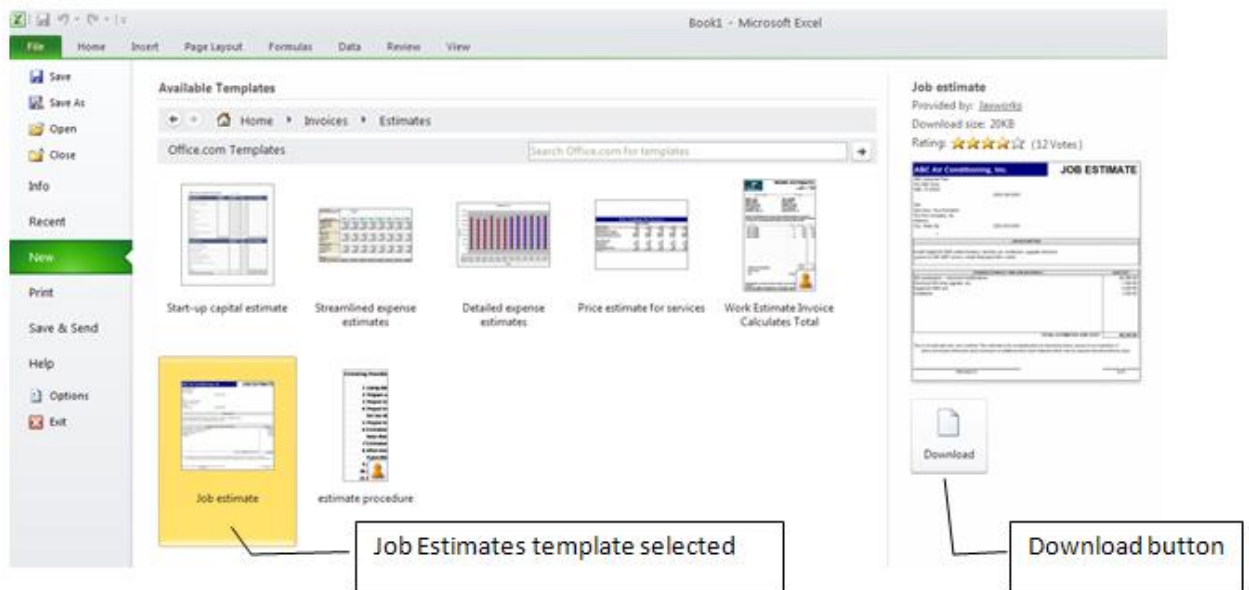

Figure 8.43. Template selected for download.
4. Click the Invoices button and click the Estimates folder. Click the Job Estimates template as shown in Figure 8.43